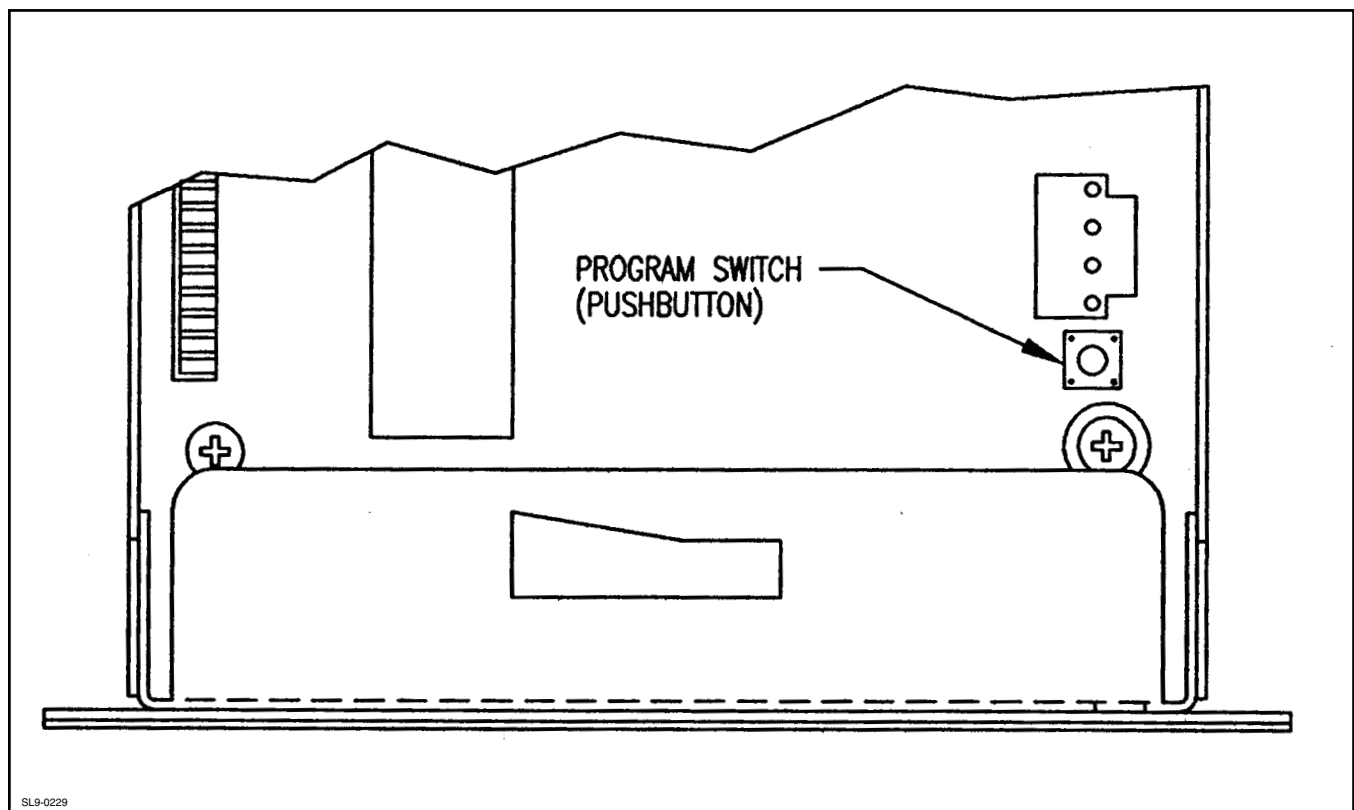

FIGURE 4 - Top View Of Controller.
2. Unlock the control tray, carefully slide the control tray assembly forward about three inches. Press the program switch. (See fig. 4 "Rear View of Controller") Reinstall and lock the controller. The controller is now in the program mode at the "00" step, displaying the hours run by the lower drum. (Refer to the table defining the steps.)